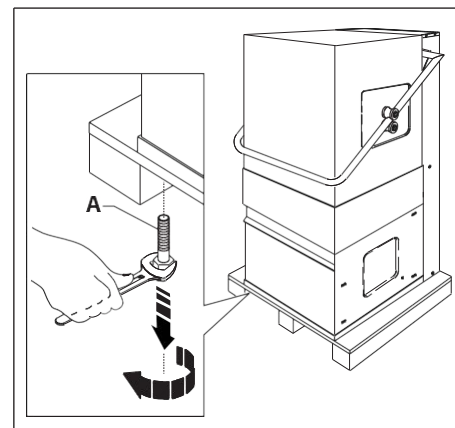

Fig. 3
2. Remove the two screws A that secure the dishwasher to the pallet used for transport (fig. 3)